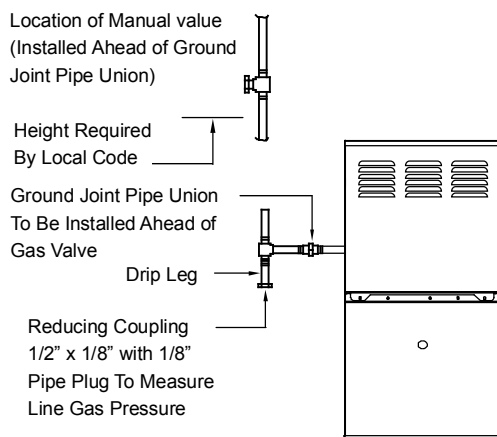

Fig. 24 - Typical Gas Pipe Arrangement
1. Remove and save two screws holding J-Box. (See Fig. 24.)